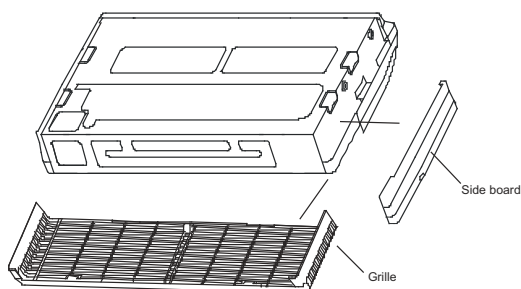

Fig.49-9
1. Remove the side board and the grille. (Refer to Fig.49-9) (For 48000Btu/h and 60000Btu/h models, do not remove the grille.)